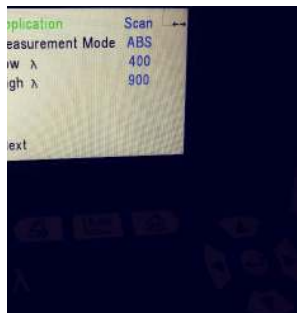

Figure 8. APPLICATION SCAN
10. Then the screen will show APPLICATION SCAN, press ENTER. Refer to figure 8.